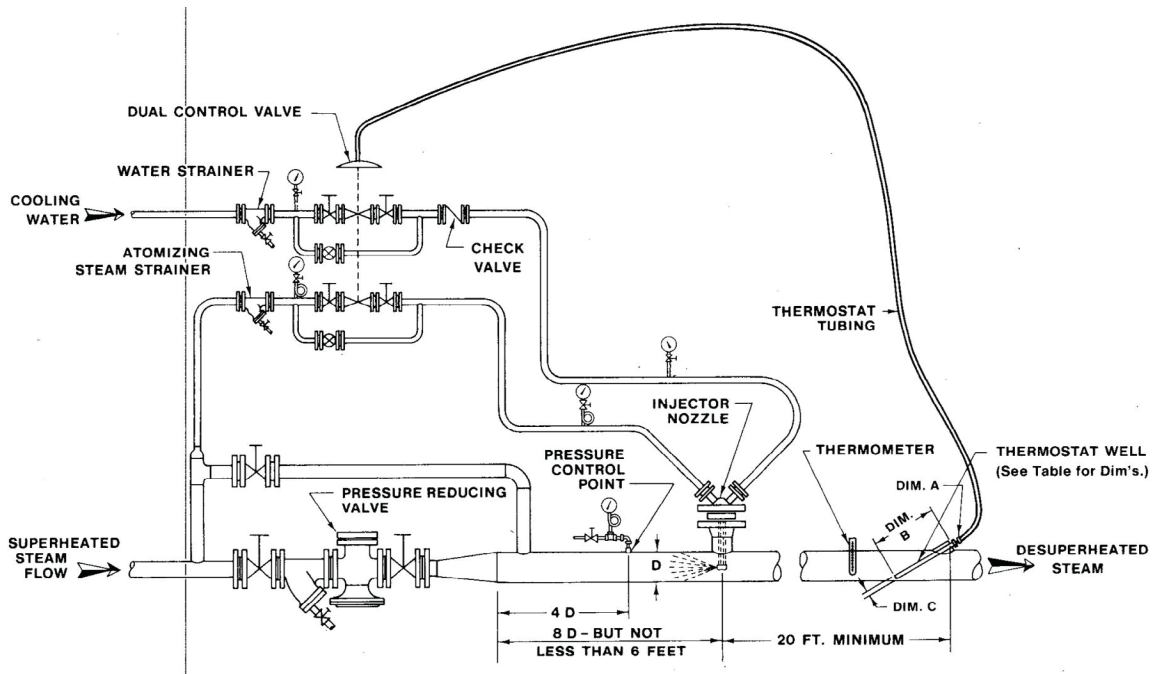

Figure 2. Direct-Operated Desuperheater Station Installation
1. Locate the injector nozzle in the superheated steam main. There should be at least 8 diameters (6 ft / 1.83 m minimum) of straight run ahead of the nozzle. The nozzle will operate in any position in a horizontal or vertical pipe. The center-to-face dimension of the flanged connection must equal that of the nozzle. This will place the nozzle on the steam main's centerline. See Figure 2.
2. Install the control valves and strainers as shown with the arrows pointing in the direction of flow. See Figure 2.
8. Install the required pressure gauges and thermometer as shown in Figure 2.